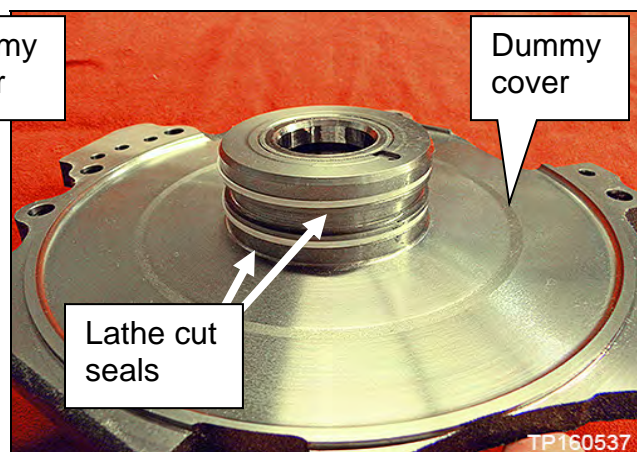

Figure 20B
- Do **NOT** remove the lathe cut seals (Figure 20B) from the dummy cover. These seals will be reused.